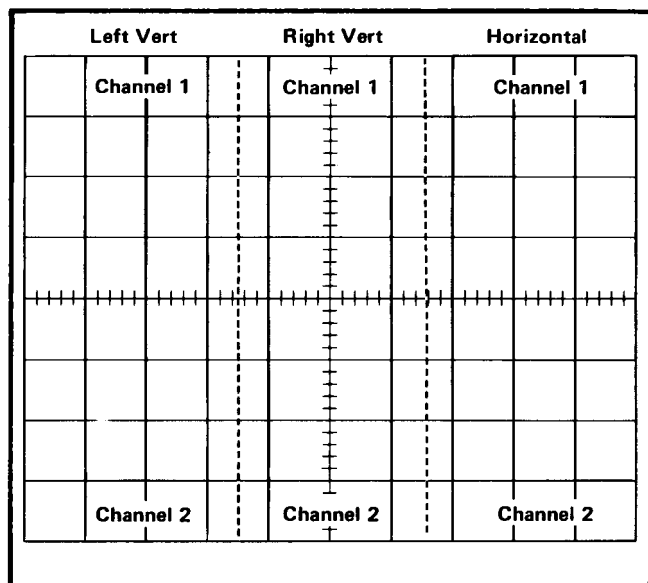

Fig. 4-24. Location of readout words on the CRT identifying the originating plug-in unit and channel (one complete frame shown, simulated readout).
**Frame**—A frame is a display of all words for a given operating mode and plug-in combination. Up to six words can be displayed in one frame. Fig. 4-24 shows one complete frame (simulated readout) and the position at which each of the six words is displayed.
each word is fixed and is directly related to the plug-in unit from which it originated. Fig. 4-24 shows the area of the graticule where the readout from each plug-in unit is displayed. Notice that channel 1 of each plug-in unit is displayed within the top division of the CRT and channel 2 is displayed directly below within the bottom division. Fig. 4-26 shows a typical display.
The Character Generator stage produces the characters which are displayed on the CRT. Any of the 50 characters shown on the Character Selection Matrix of Fig. 4-24 can be addressed by proper selection of the column and row current. Only one character is addressable in any one time-slot; a space can be added into the displayed word by the Decimal Point Logic and Character Position Counter stage when encoded by the plug-in. The latter stage counts how many characters have been generated and produces an output current to step the display one character position to the right for each character. In addition, the character position is advanced once during each of time-slots 1, 2, and 3 whether a character is generated during these time-slots or not. This action fixes the starting point of the standard-format display such that the first digit of the scaling factor always starts at the same point within each word regardless of the information encoded in time-slot 2 (normal/invert) or time-slot 3 (cal/uncal) which precedes this digit. Also, by encoding row 10 and column 0 during any time-slot, a blank space can be added to the display. Decimal points can be added to the display at any time by addressing row 7 and columns 3 through 7 (see Character Selection Matrix for location of these decimal points). The Decimal Point Logic and Character Position Counter stage is reset after each word by the Word Trigger pulse.
The Format Generator stage provides the output signals to the vertical and horizontal deflection systems of the instrument to produce the character display. The binary Channel Address No. 2 code from the Channel Counter stage is connected to this stage so that the display from each channel is positioned to the area of the CRT which is associated with the plug-in and channel originating the word (see Fig. 4-24). The positioning current or decimal point location current generated by the Decimal Point Logic and Character Position Counter stage is added to the horizontal (X) signal at the input to the Format Generator stage to provide horizontal positioning of the characters within each word. The X- and Y-output signals are connected to the Horizontal Amplifier and Vertical Amplifier through the Horizontal Output and Vertical Output stages respectively.